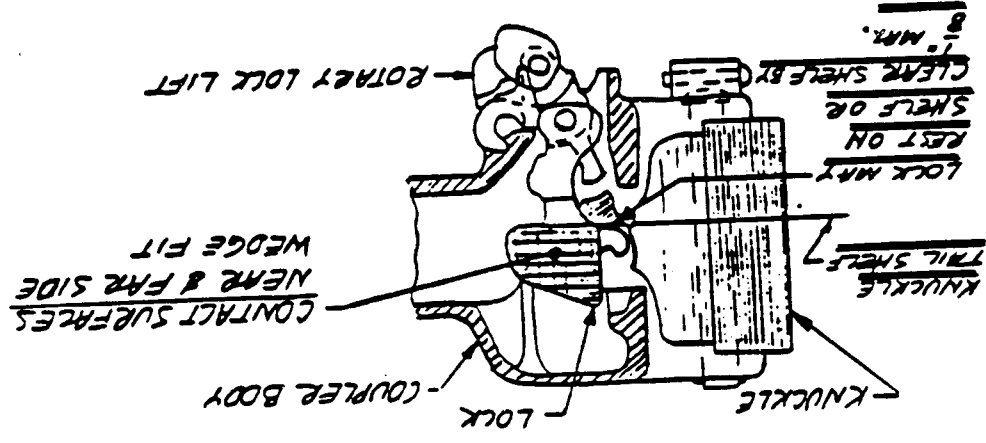

FIG. 3
5. Close the knuckle and make sure that lock is seated on the knuckle tail shelf or more more than 1/8" above the knuckle tail shelf (figure 3).